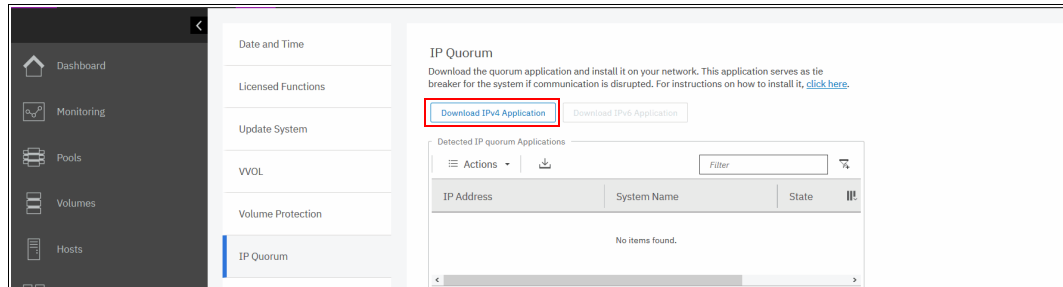

Figure 3-38 Download IPv4 quorum button
1. Select **System** → **Settings** → **IP Quorum** to download the IP quorum application, as shown in Figure 3-38. If you are using IPv6 for management IP addresses, the **Download IPv6 Application** button is available and the IPv4 option is disabled.